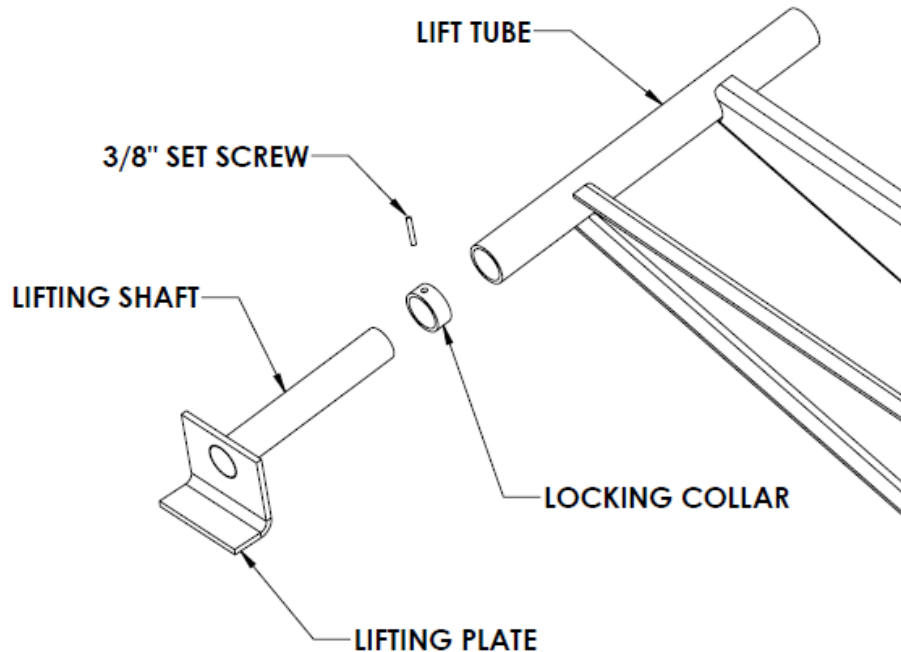

FIGURE 4
6. Place a lock collar onto each of the lifting shafts. Slide a lifting shaft with collar into each end of the hoist lifting tube. Refer to Figure 4.
9. Position both of the lifting brackets against the inside of the channel long beam of the body. To secure the bracket to the long beam, weld the lifting bracket as shown in figure 5. After the lifting bracket is secured, slide the lock collars against the hoist lifting tube and secure them in place by tightening the 3/8" set screw. Refer to figures 4 and 5. The set screw should be torqued to 23 foot pounds.